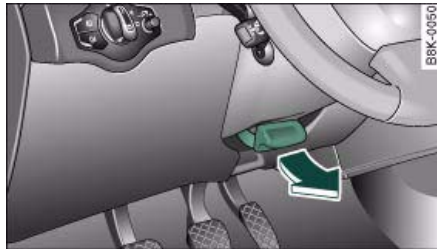

Fig. 130 Lever beneath steering column
- Pull the lever ⇒ fig. 130 -arrow- ⇒ ⚠ up.